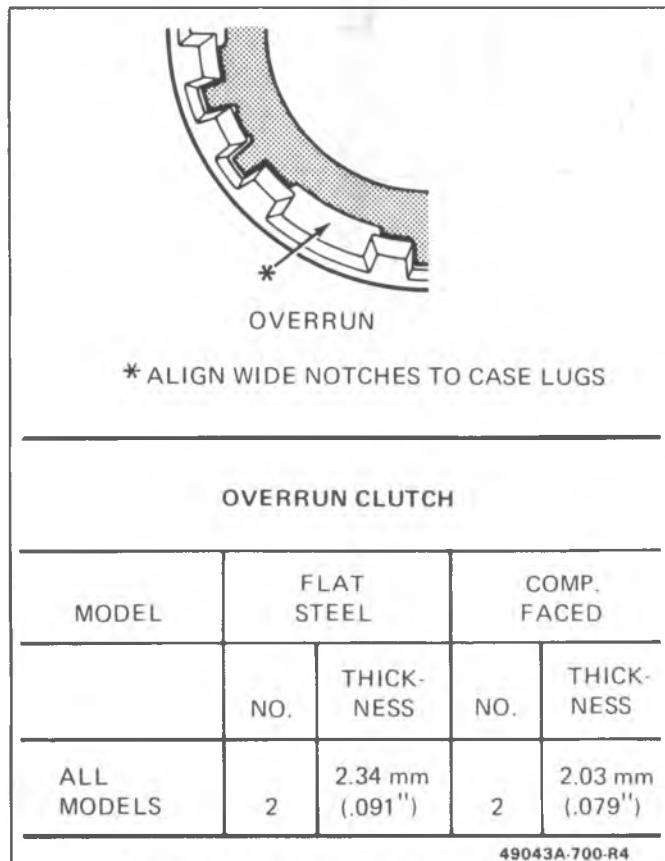

Figure 104 Overrun Clutch Plate Chart
- Input sun gear bearing assembly (637) for wear, flatness or damage
**Assemble (Figures 104 and 105)**
1. Overrun clutch plates (645) into the input housing.
2. Thrust bearing assembly (637) onto the input clutch hub